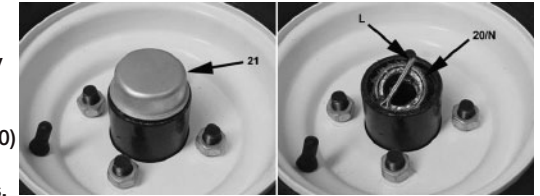

Figure 6-2
2. Remove hub cap (21) using a small pry bar between the flange on the hub cap and the face of the hub.
3. Remove 4mm cotter pin (L), bearing (20) and washer (N). See figure 6-2.
4. Remove castle nuts (H) from axle ends.
7. Install the washer and castle nut (H). Tighten castle nut while turning the tire/hub. Tighten castle nut until there is resistance while turning the tire/hub.
8. Install 4mm cotter pin (L) through castle nut (H) and hole in axle end. If holes are not aligned, slightly loosen castle nut no more than one castellation to align holes.